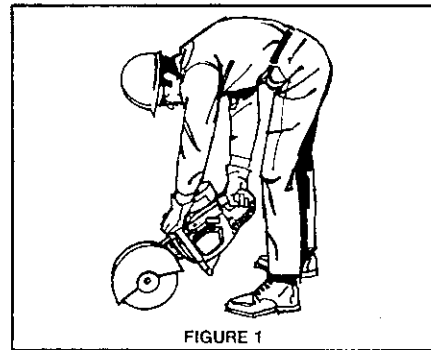

FIGURE 1
5. **DO** always use safety footwear, snug-fitting clothing, safety goggles, hearing and head protection devices, and respiratory protection while using a cutting-off machine (Fig.1).